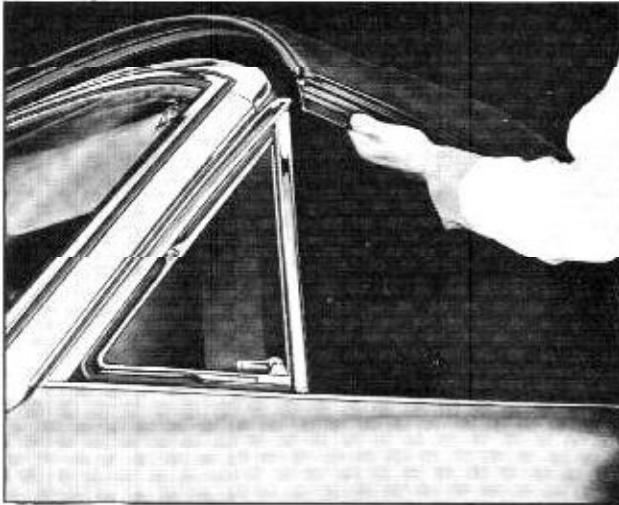

Fig. 15-65 Lowering Top
4. Standing along side of car, place palm of hand against middle of side roof rail front section. Lift up forward portion of top assembly and rotate top rearward. (Fig. 15-65)